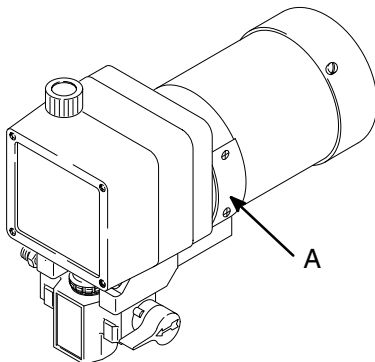

Fig. 14 04653
1. Remove both inspection covers (A) and their gaskets. See Fig 14.